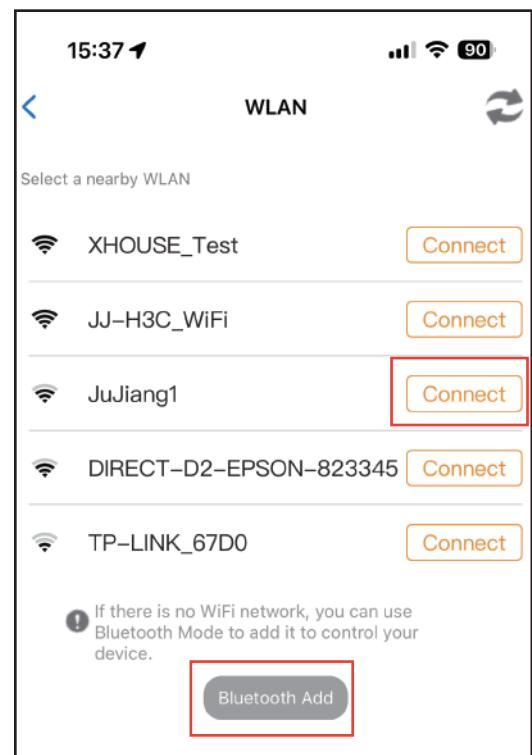
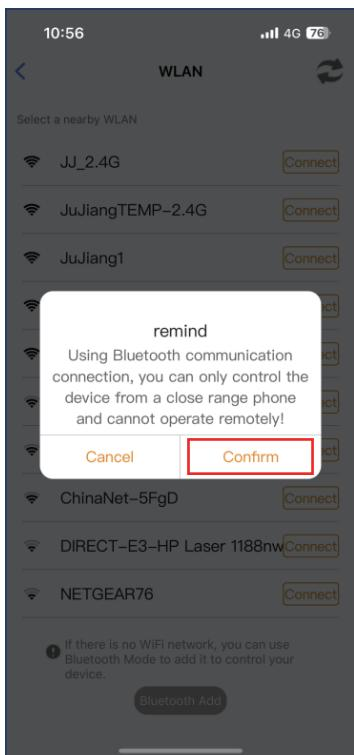

Fig 3
Fig 4
Step 2. Select the Wi-Fi, click the “Connect” and enter the password. (Fig 3)
Step 4. Bluetooth Add: If the WiFi network is failure, you can choose the Bluetooth Add. When using Bluetooth mode control the device, the mobile app must be closed to the device within Bluetooth range for about 10m to connect and control it. (Fig 3 and Fig 4).